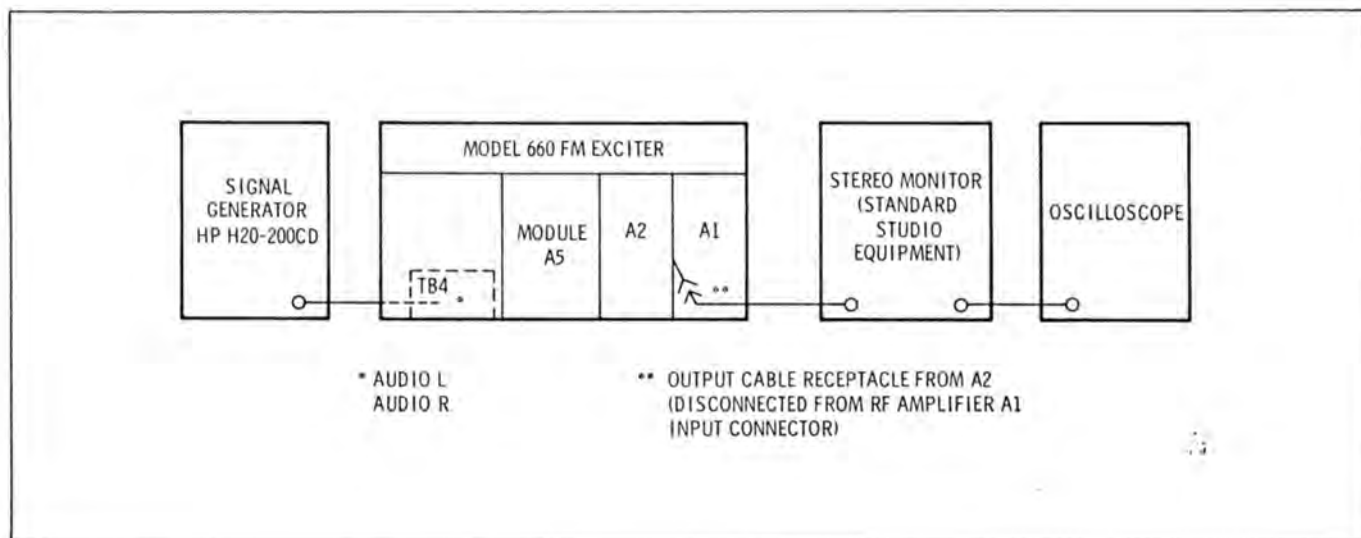

Figure 5-1. Stereo Generator Module Test Setup
- With power removed from exciter, connect test equipment as shown in figure 5-1.